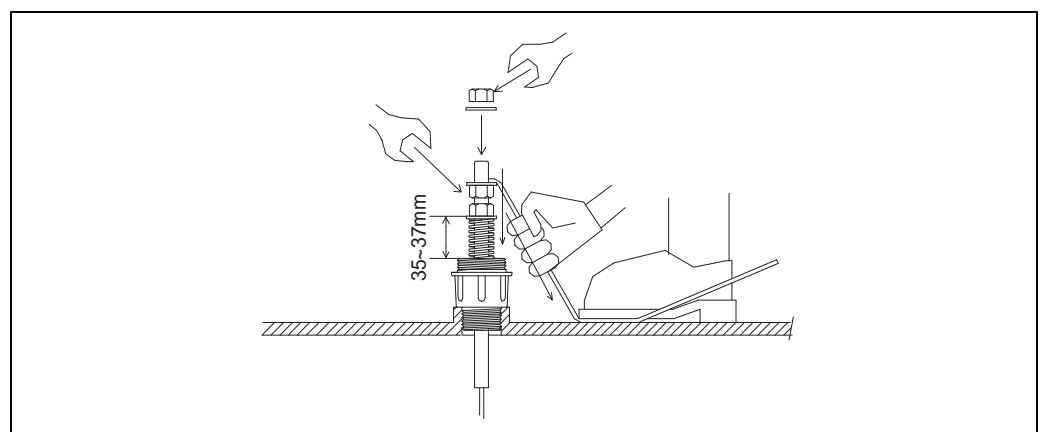

Figure 5-4: Top anchor mounting
7. Draw the end of the tensioning wire as much as possible by hand and foot (see Figure 5-4)